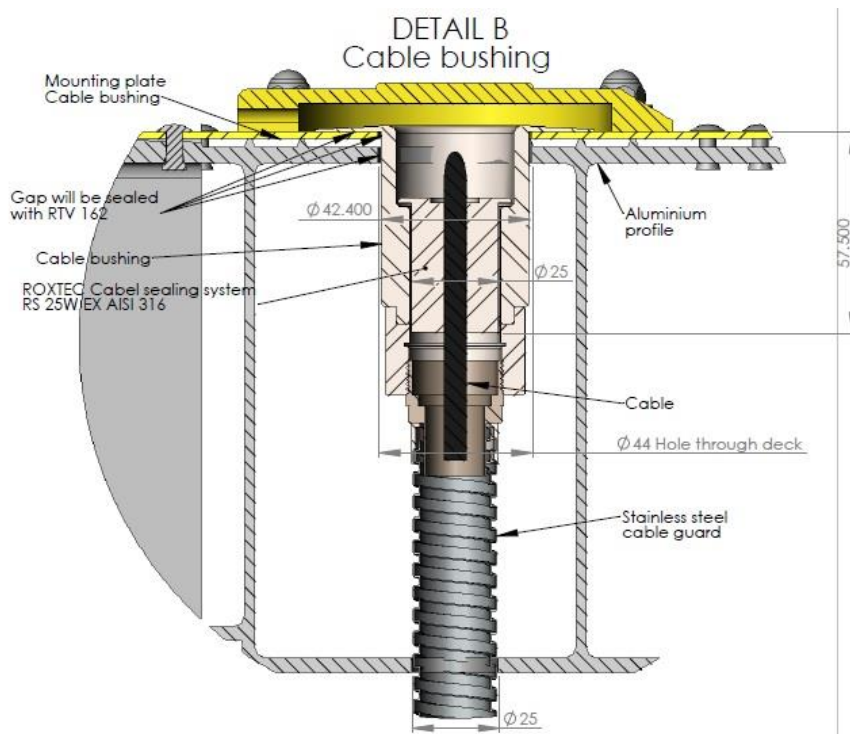

Figure 7 - Cable through Deck Installation
3. A complete assembled CABLE ROUTING KIT is shown in Figure 7
4. Installed cable bushing is shown in Figure 7.
Please check also Figure 7 for a correct installation!